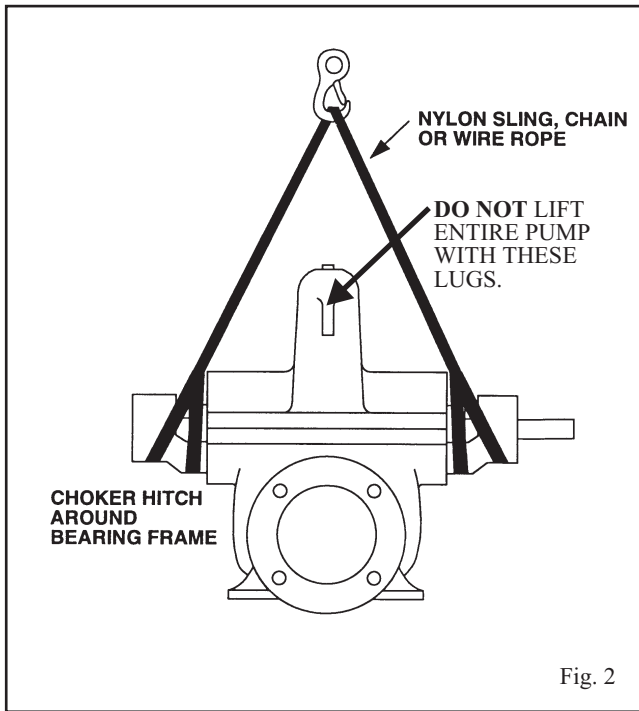

Fig. 2
1. Using a nylon sling, chain, or wire rope, hitch around both bearing housings. (See Fig. 2)